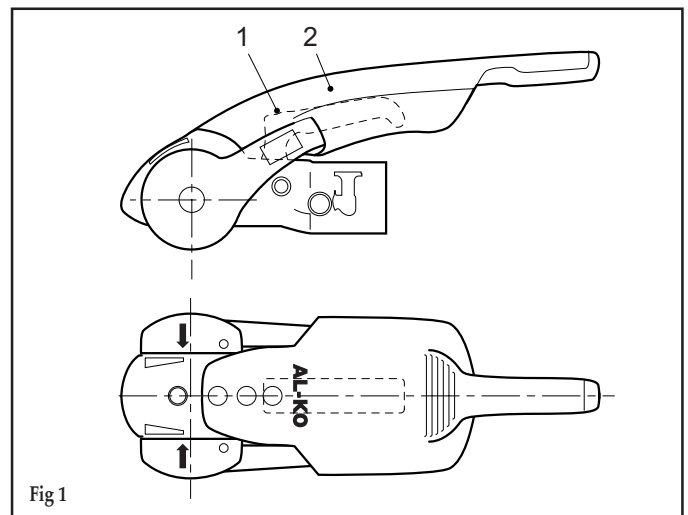

Fig 1
- Align the wheel so that the receiver can be seen in the centre of the rim opening. DO NOT use the rim opening in which the tyre valve is fitted (Fig 1).
Coupling handle (Fig. 1/Item 1), Stabiliser Lever (Fig. 1/Item 2)